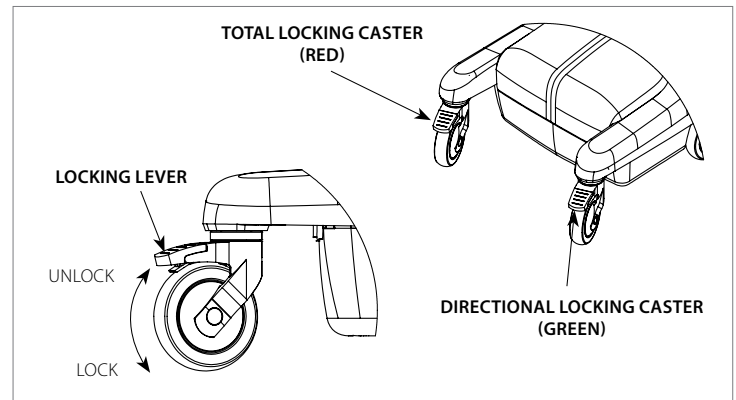

Figure 1
1. Lock the **CASTERS** by stepping on the **LOCKING LEVER** (on each caster) such that it clicks in the down position (**Figure 1**).